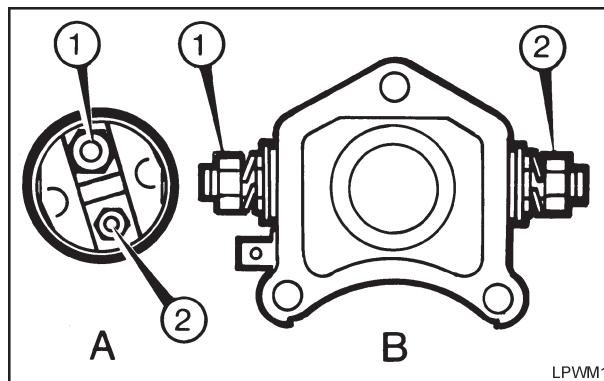

Figure 2.7.2 Starter Motor Terminals
4. Replace the cable loom connections in the positions as shown in 'Figure 2.7.2'.